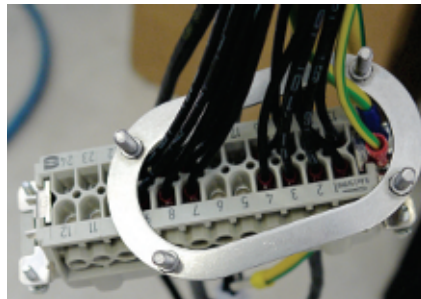

Fig. 54: Cables and cable gland bracket after removing the cable gland
5. Pull the cables out of the cable gland successively. Begin with the single cables with smaller connectors to obtain maximum space for the largest connector. Finally, pull the Harting connector out of the cable gland. The cable gland is now free and can be replaced. The cable gland bracket remains on the cables (see Fig. 54).